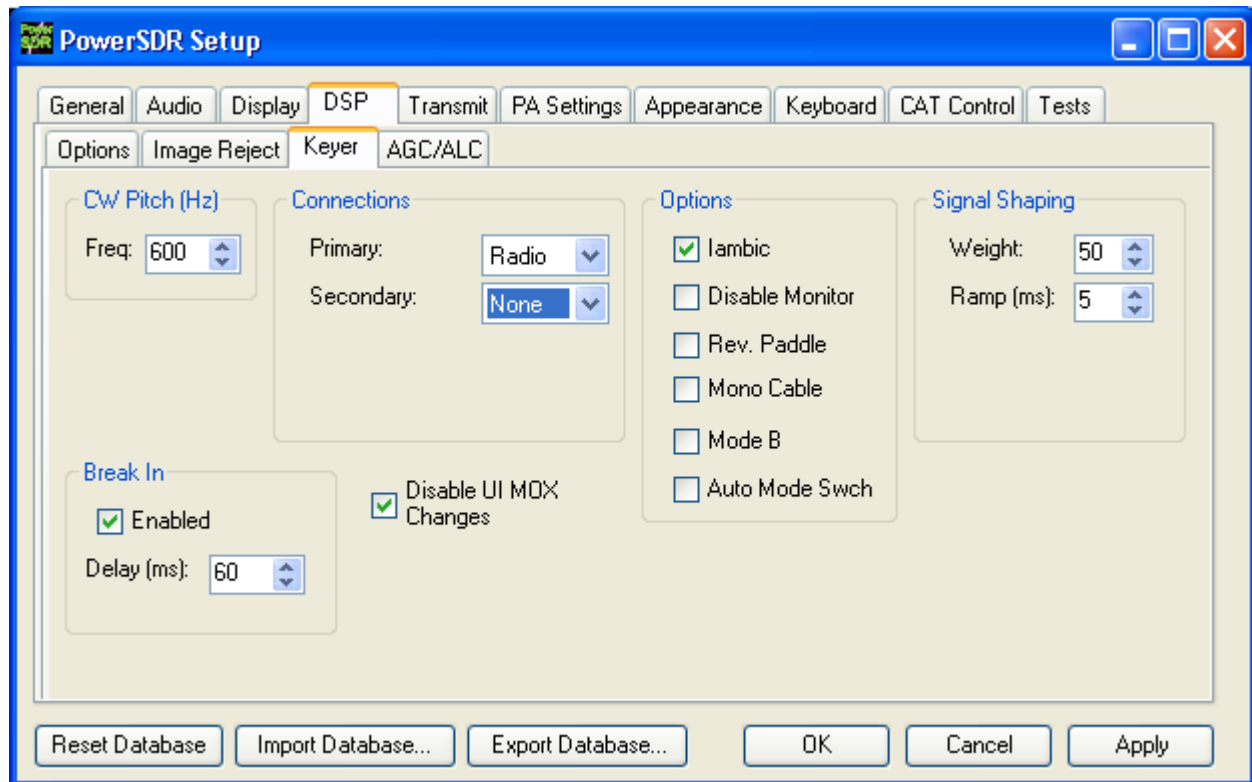

Figure 28: Setup Form – DSP Tab, Keyer Sub-Tab
If using PowerSDR's internal keyer, open the Setup Form – DSP Tab, Keyer Sub-Tab shown in Figure 28 below. Several of the controls in this form are also available in the **Mode Specific Controls – CW (8)** section on the Front Console.
1. Connect your paddles or keyer to the Key jack on the back panel (see page 5) and on the Keyer Sub-Tab in the **Connections** section, set **Primary** to **Radio** (see Figure 28).
1. Connect your keyer to the Key jack on the front panel (see page 3) and set the **Primary Connection** to **Radio** (see Figure 28 on page 45)
4. If not using **Break In**, click **MOX (16)** on the Front Console and begin transmitting using your external keyer. If using **Break In**, simply begin transmitting to key the radio. If **Disable Monitor** is unchecked, you should hear the side tone. Verify with the **TX Meter (4)** set to **Fwd Pwr** that there is forward power.
5. You are now ready to begin a QSO. If a 50 ohm dummy load was connected, connect a 50 ohm antenna in its place. Tune to the desired frequency using one of the methods outlined in the Tuning Methods section above. Select either **CWL** or **CWU (6)** and proceed with the QSO.